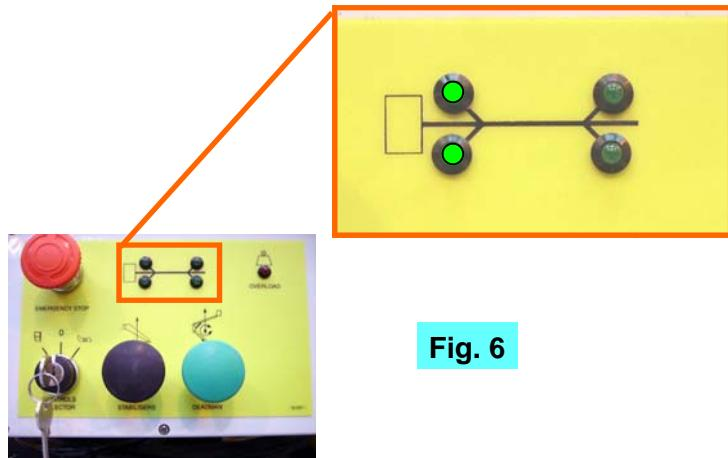

Fig. 6
5. Lower Outriggers 1&2 until the green LED display indicates that they are (*Fig 6*)